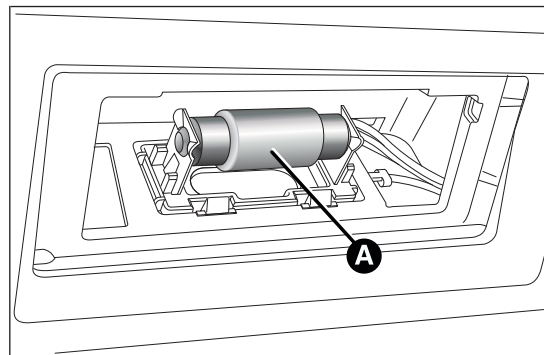

fig. 138
- ☐ replace the bulb A fig. 138, releasing it from the side contacts;